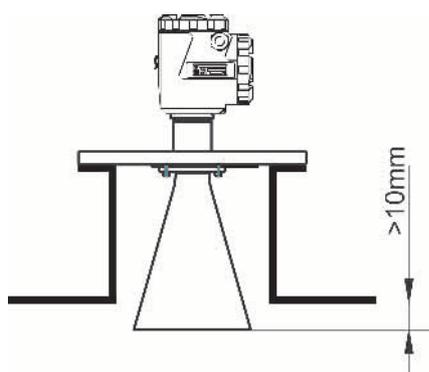
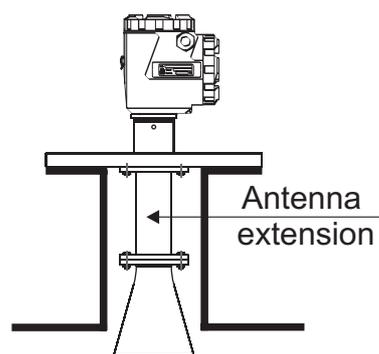

Fig.12
Fig.13
- The horn antenna must extend below the fixing nozzle (fig.12). If necessary, it's possible to use the antenna extension(fig..13)